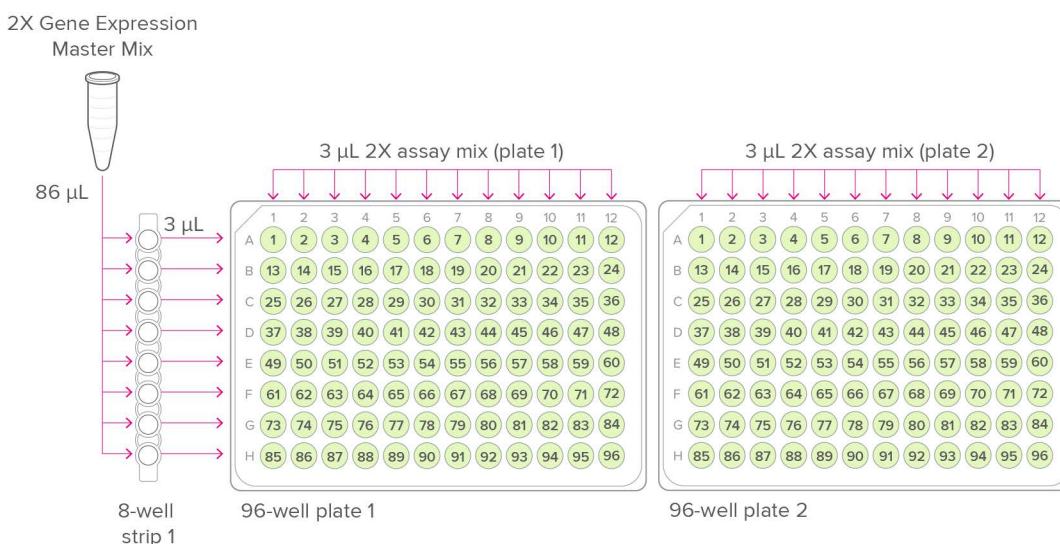

Figure 2. Preparation of final assay mixes
- a Using an 8-channel pipette, transfer 3.0 μL master mix into each well of two new 96-well plates (see Figure 2).